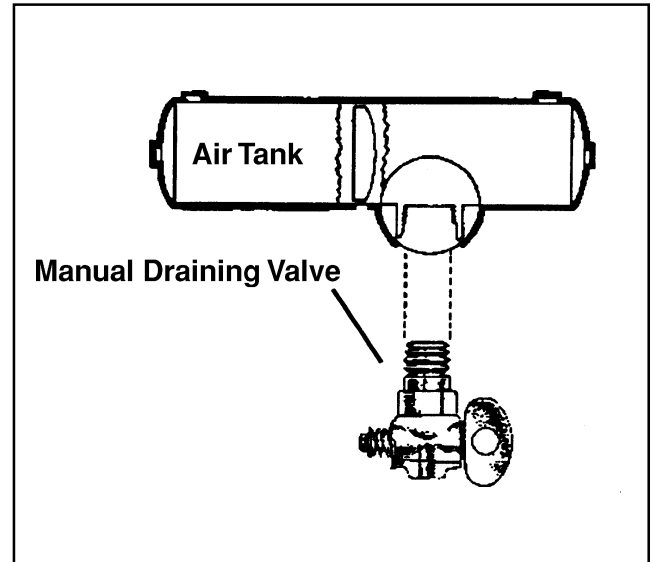

Figure 5-1
- ✓ Manually operated by turning a quarter turn, shown in Figure 5-1, or by pulling a cable. You must drain the tanks yourself at the end of each day of driving.